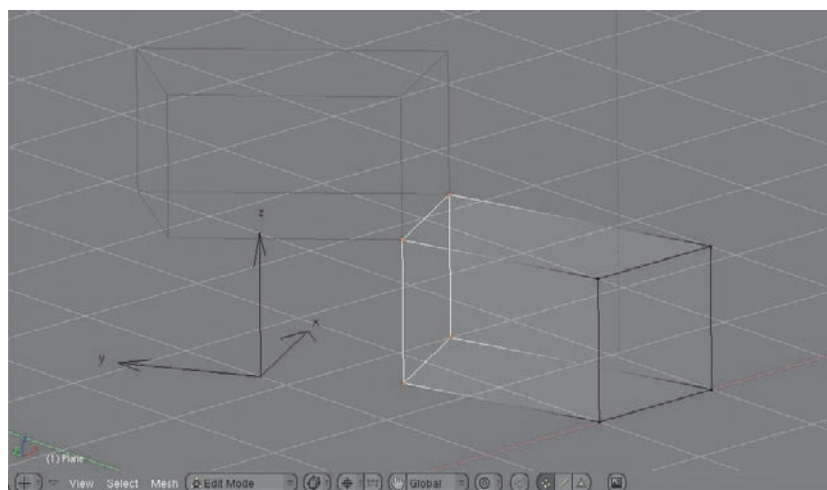
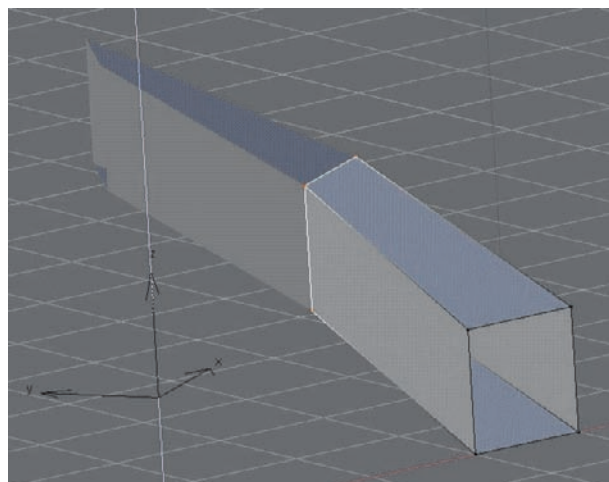

Figure 1.80 These vertices will be edited to create the shape key.
Figure 1.81
3. With Key 1 selected in the panel, enter Edit mode. The idea is to create a shape key such that the end of one array instance meets the beginning of the next, creating an unbroken coil. To do this, it is necessary to select only the vertices shown in Figure 1.80, and translate them directly upward along the Z axis one Blender Unit (hold Ctrl while translating, to constrain the movement), as shown in Figure 1.81.